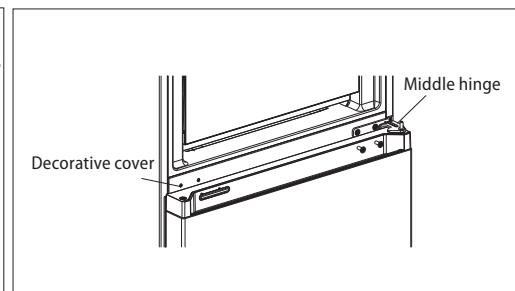

Fig. 2
- Remove the blind plugs and the middle hinge of the refrigerator (Fig. 2). Remove the freezer door and place it in a safe place.